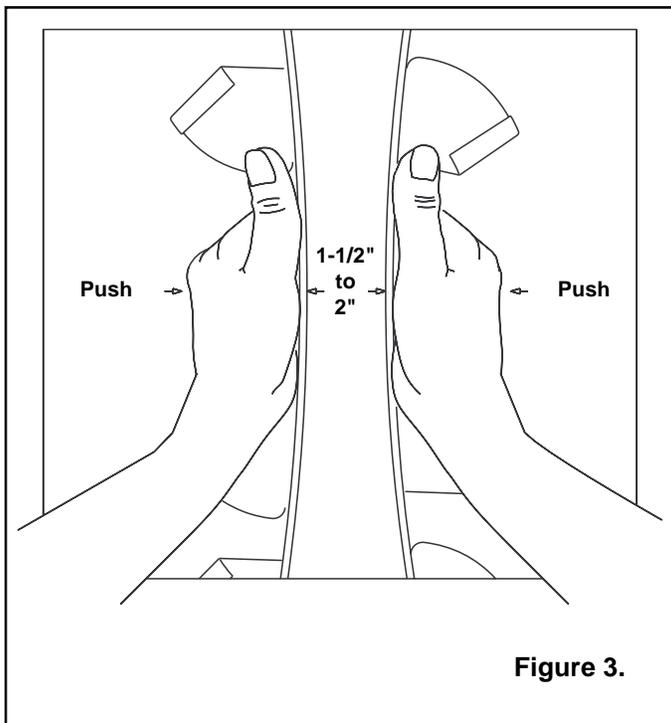

Figure 3.
5.3 Working through the access opening, use both hands, to draw the two sides of the elevator belt together. If the belt is tightened correctly, it cannot be drawn any closer together than between 1-1/2" to 2" See Figure 3.